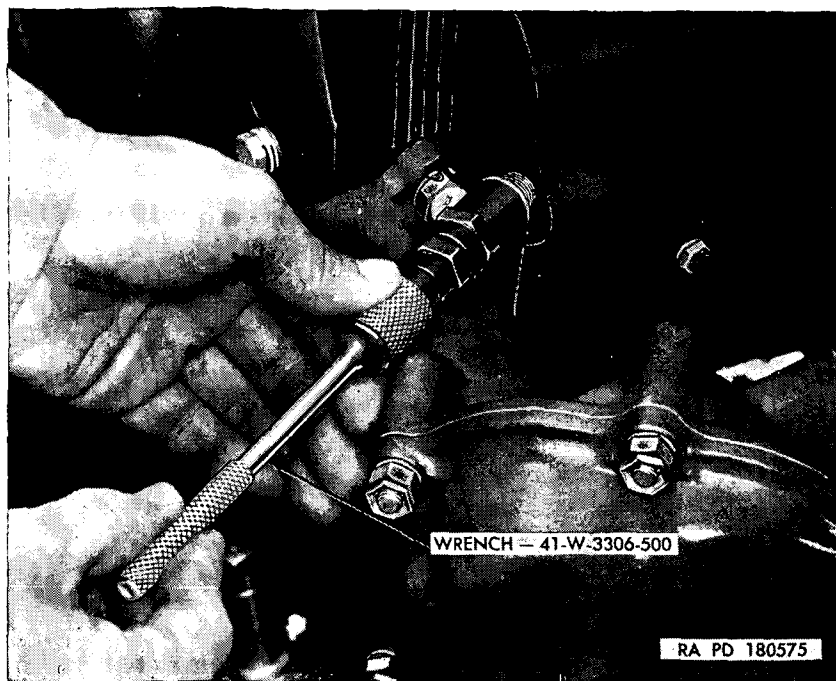

Figure 109. Installing spark plug.
a. Install Spark Plugs. Insert spark plugs in their holes with inserting wrench 41-W-3306-500 (fig. 109), using a new spark plug gasket. With a deep socket wrench, tighten to 200 to 225 lb-in torque (par. 167).